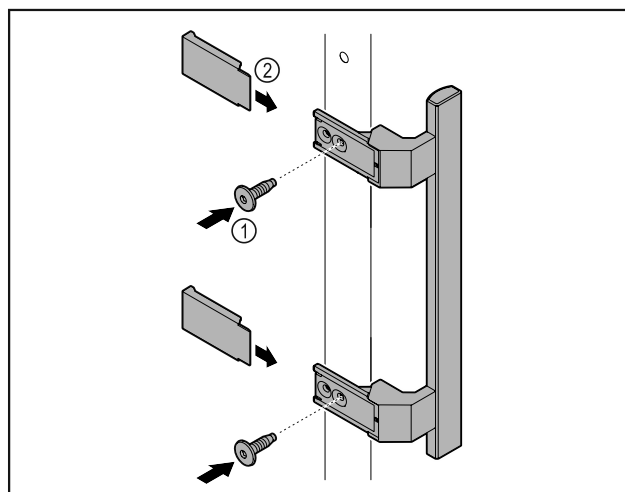

Fig. 58
- ▶ Attach handle from accessory kit to the door using the screws Fig. 58 (1) supplied.
- ▶ Put on cover Fig. 58 (2).